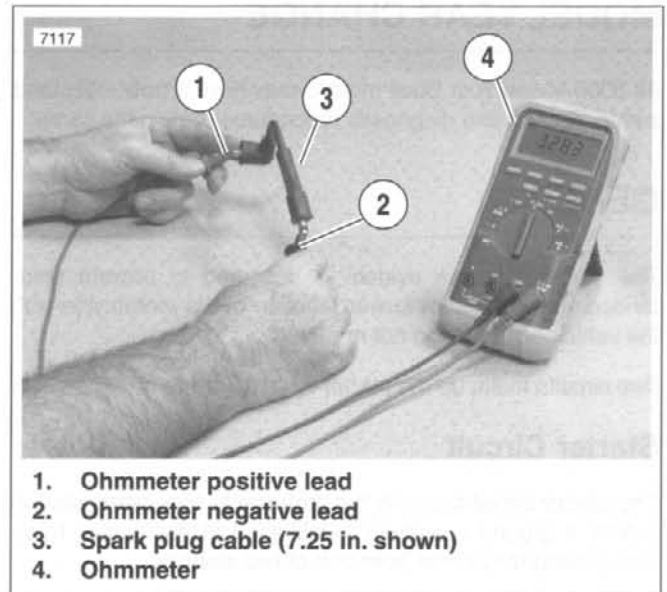

Figure 7-4. Testing Resistance
3. See Figure 7-4. Check spark plug cable resistance with an ohmmeter. Replace cables not meeting resistance specifications.